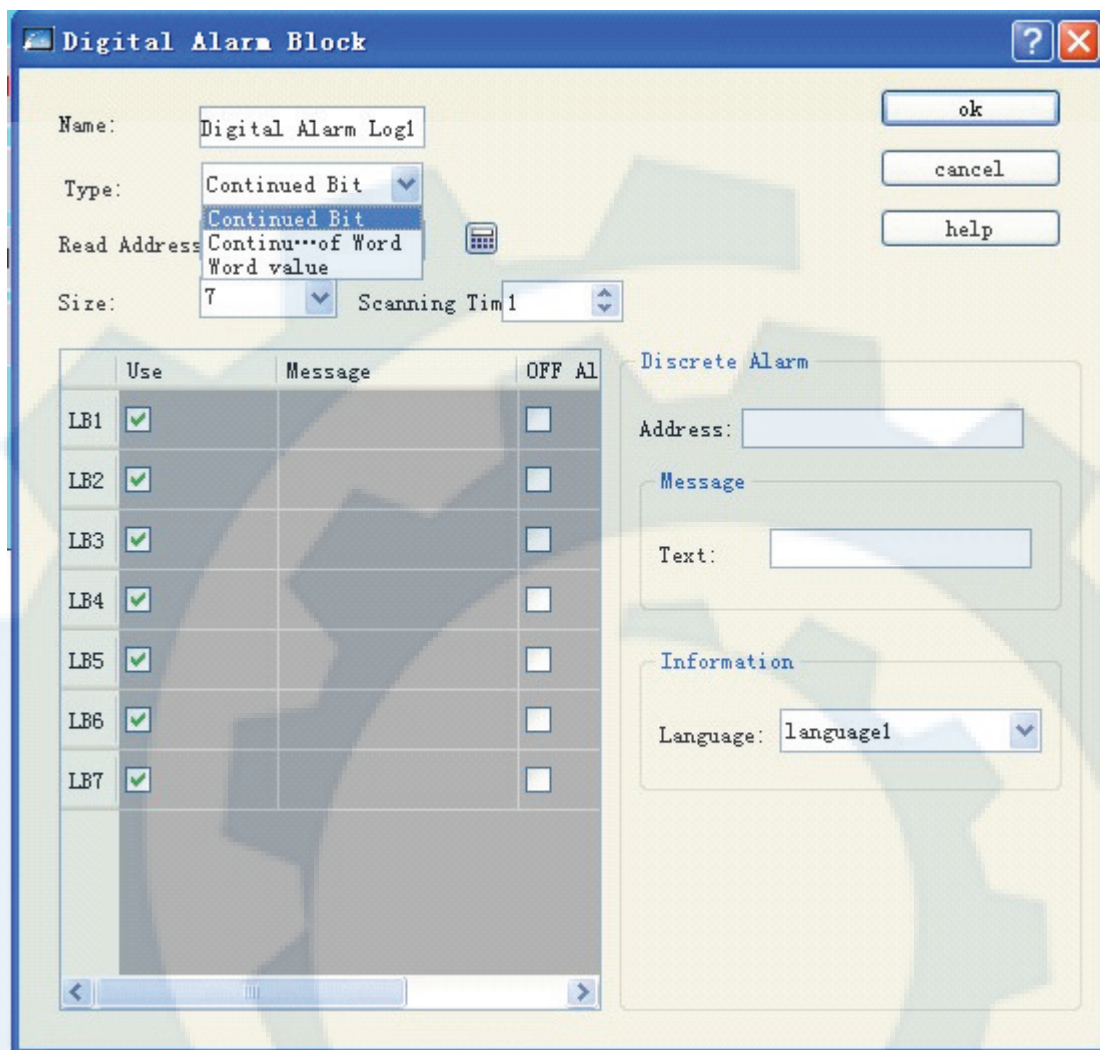

Figure 7-21 The dialog box of digit alarm at “continuous digit”
- Double click the option “Digital Alarm Log” in unfolded option of alarm log to open the dialog box of digital alarm setting, as shown in figure 7-21.